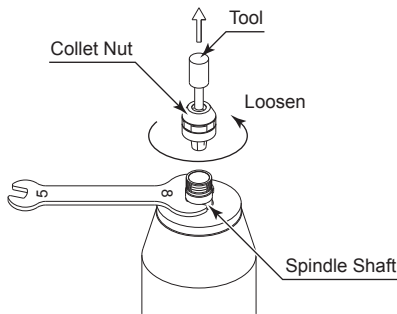

Fig. 11
- ① Remove the tool according to the section " 7. CHANGING THE TOOL " procedure above and remove collet nut assembly (Fig. 11).